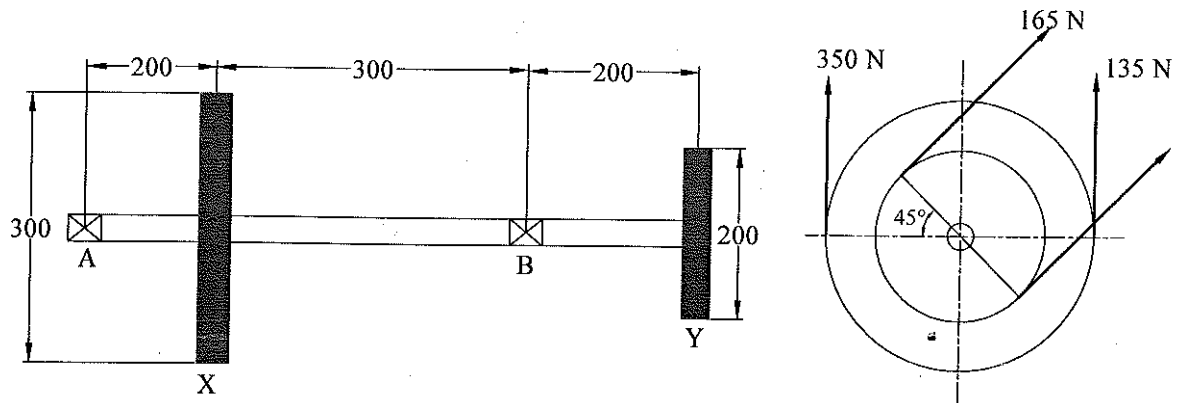

Fig. 1
1. A steel shaft made of 40C8 is used to drive a machine. The pulleys X, Y and bearings A, B are located as shown in Fig. 1 Belt tensions are also shown. Determine diameter of the shaft using ASME code. Take  $S_{yt}$  of the shaft material as  $330 \text{ N/mm}^2$  and  $S_{ut} = 600 \text{ N/mm}^2$ . Assume  $K_b = 1.5$  and  $K_t = 1.2$ .